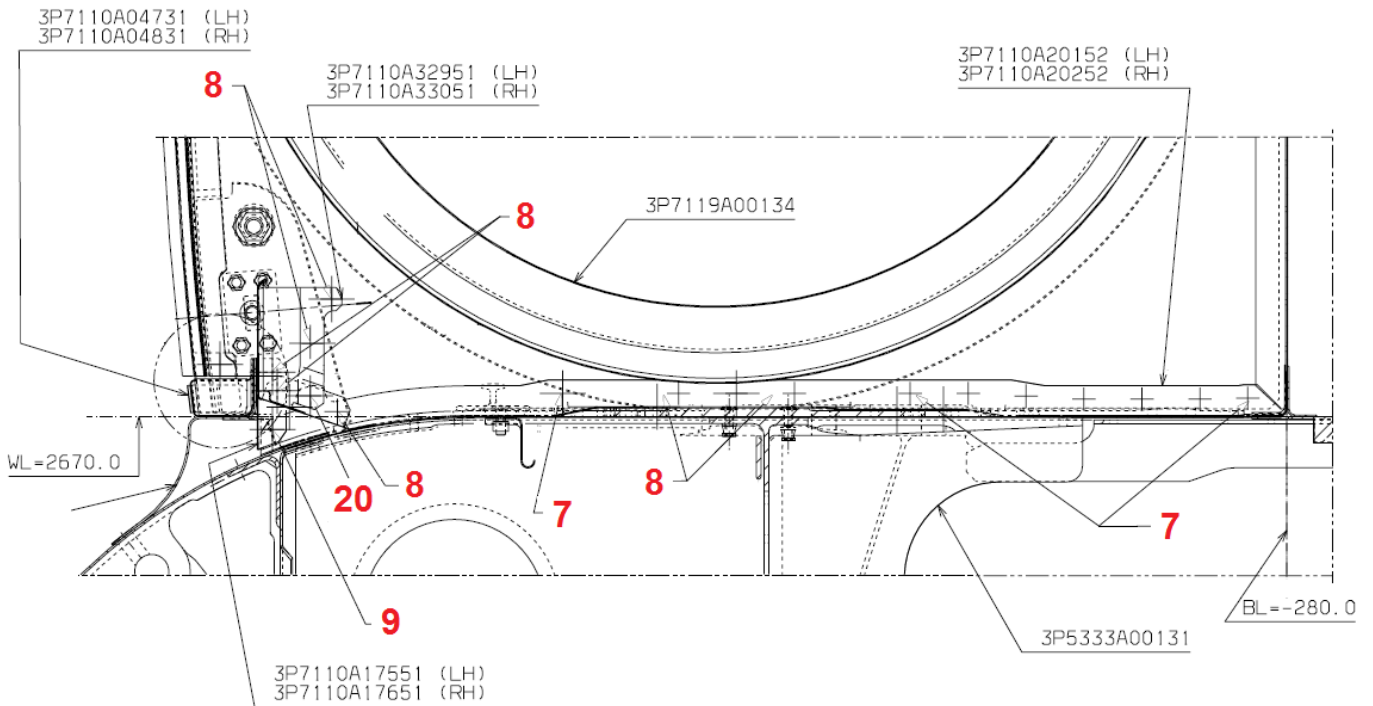

Figure 4 – Section AB-AB from Fig 3
3. With reference to Figure 4, drill out rivets that install LH and RH angles (P/N 3P7110A20152 and P/N 3P7110A20252) on firewall assy.
14. With reference to Figure 4, install rivets on LH and RH angles (P/N 3P7110A20152 and P/N 3P7110A20252) on firewall assy.